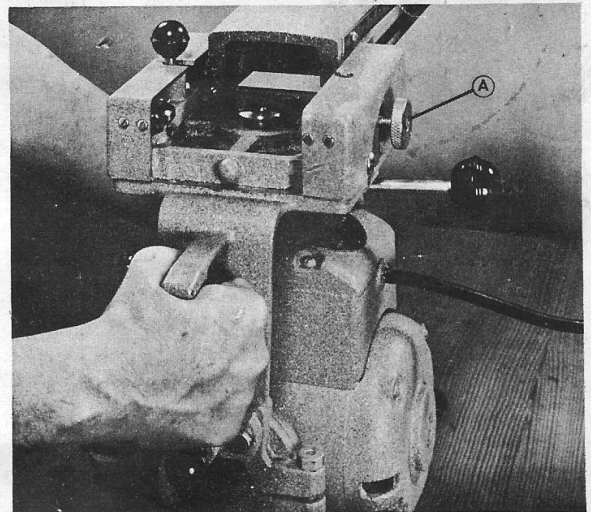

FIGURE 2
2. Hold roller head assembly with both hands as shown in Fig. 2 and line up with track-arm. Motor arbor to be on left-hand side.
3. Slide the first two ball bearings on track, be sure rip lock (A) follows properly. After rip lock is on track, the other two ball bearings will follow.